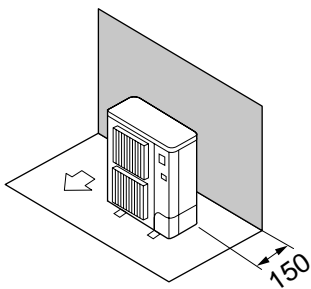

Fig. 2-4
- Obstacles at rear only (Fig. 2-4)